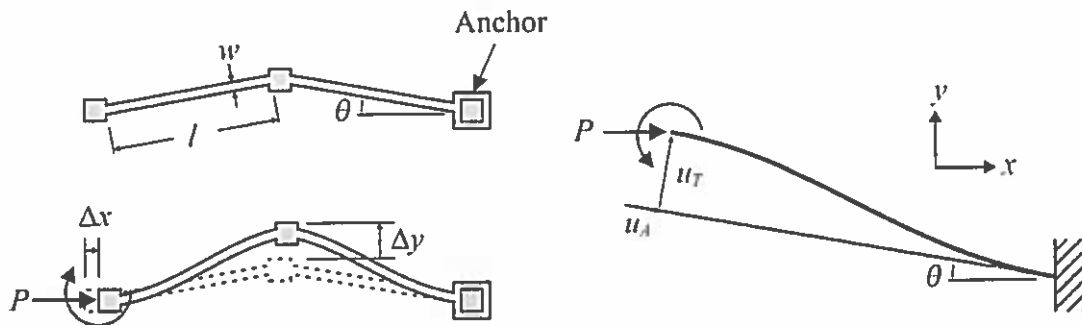

Figure 4.1
- b) Figure 4.1 shows a v-beam structure consisting of two flexures connected in series with an angle between them. Such a structure can be used as a mechanical amplifier since, depending on the angle θ , a small x -displacement at the free end can lead to a relatively large y -displacement of the central block.
Considering the deflected structure, and focusing on the right-hand flexure as detailed on the right of Figure 4.1, derive expressions for the axial and transverse end displacements, u_A and u_T , in terms of the load P and the beam stiffnesses. Also write down the geometrical relationships between u_A , u_T , Δx and Δy , and hence show that the mechanical amplification of the structure may be expressed as: